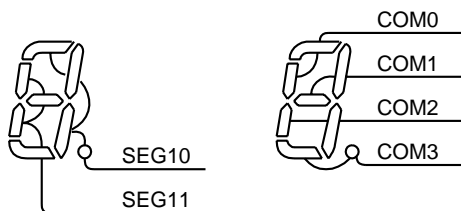

Figure 15-5 Example of COM, SEG Pin Connection (1/4 duty)
Example : (1) To display using 1/4 duty LCD a numerical value which corresponds to the LCD data stored in data memory at address 80H (when pins COM and SEG are connected to LCD as in Figure 15-5), display data become as shown in Table 15-5.